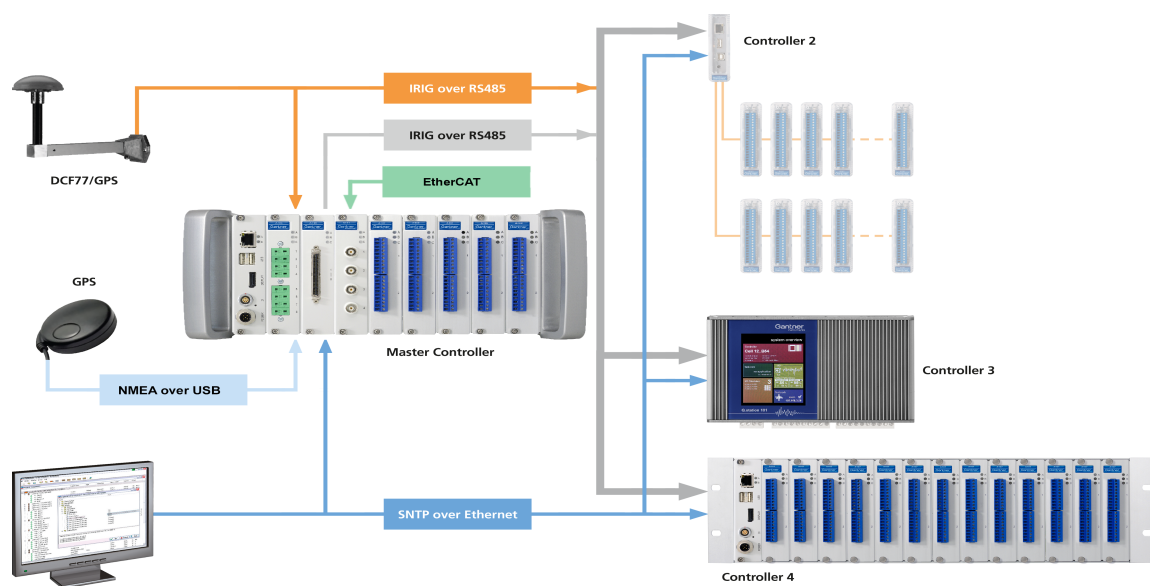

Fig. 6-4 Possible types of time synchronization; the locations of lines depicted on products pictured are not relevant
There are various methods for synchronizing several *systems*, i.e., several *Test Controllers*; (refer to Fig. 6-4 on page 126):
The master controller (the device which is *not* configured as a slave, refer to Section 7.1.1.4, *Synchronization*, page 141) uses its internal clock for the date/time stamp (gray path in Fig. 6-4, page 126). For this type of synchronization (inputs SyA and SyB) you must lay synchronization cables between the Test Controllers; the maximum permissible length of cable used is 400m (total). The master controller transfers the time stamp through an RS-485 link to the other Test Controllers. This method achieves the best time synchronization with the smallest jitter (approx. $\pm 2\mu\text{s}$) between the individual modules, because the time information passes simultaneously to all Test Controllers.
As master controller, the Q.station X then synchronizes all other Test Controllers using IRIG (orange colored path in Fig. 6-4) as with Variant 1. If it is not possible to connect the individual Test Controllers via synchronization cables or this is not desired, you can also connect a GPS receiver to each Test Controller (**Variant 2b**).
With this method the time information of the GPS signal is evaluated instead of a pure time signal. In addition you can also process the position details of the GPS receiver in the system and assign the measurements (light blue path in Fig. 6-4). If it is not possible to connect the individual Test Controllers via synchronization cables or this is not desired, you can also connect a GPS receiver to each Test Controller (also to a Q.gate Test Controller) (**Variant 3b**).
4. You define a PC as an SNTP time server which can distribute the NTP time stamp to all Q.station X, Q.station Classic or Q.gate Test Controllers (dark blue path in Fig. 6-4). However, Q.gate Test Controllers are not compatible with *GI.bench*.